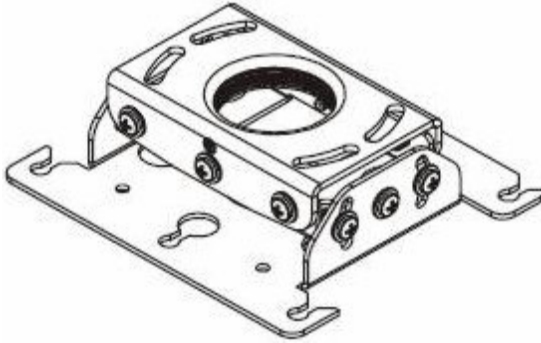

Figure 40: Projector Mount
- Attach the **SV-2** Projector Bracket to your projector, by selecting the screw size that fits the threaded inserts on your projector, and the washer that fits the selected screw. Attach the **SV-2** Projector Bracket to the projector using the selected fasteners, as defined in Table 11 and attach the **SV-2** Projector Bracket to the projector mount (see Figure 40)